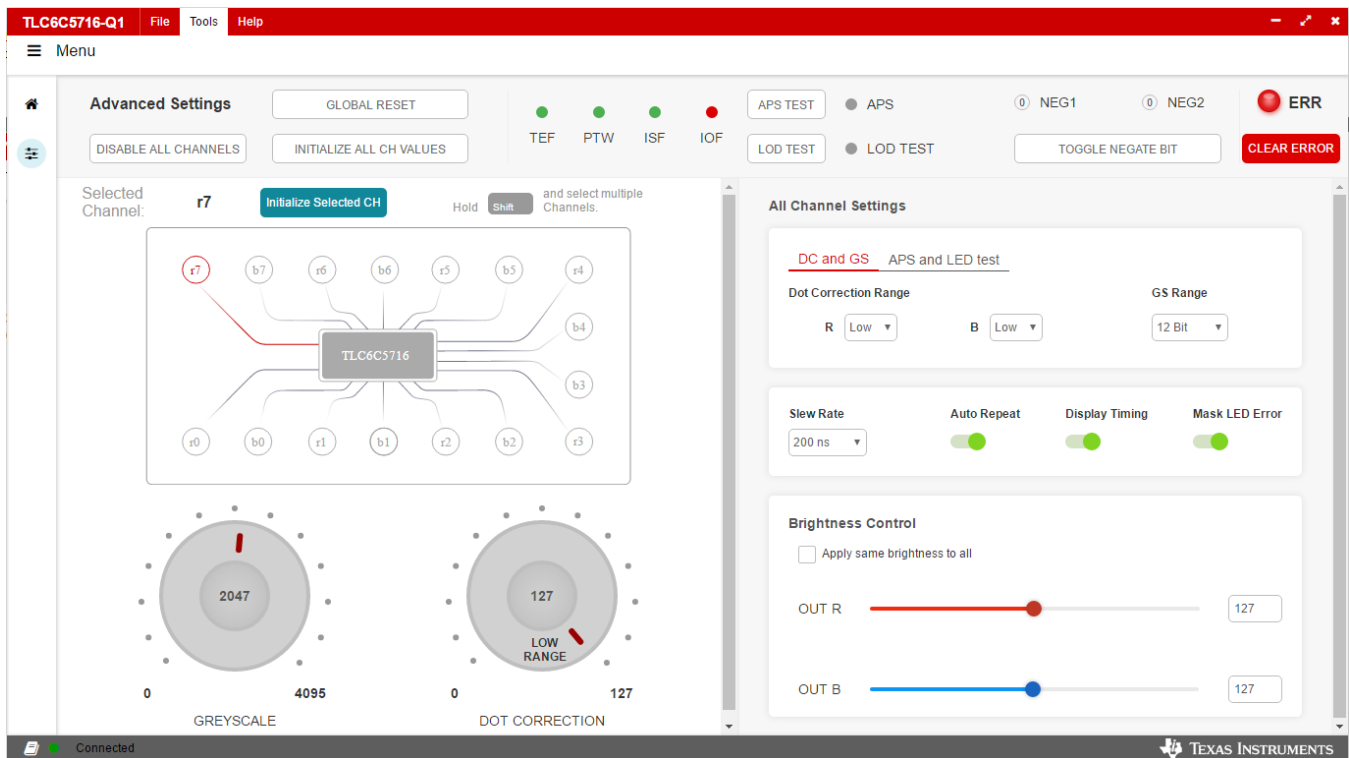

Figure 5. Advanced Settings Page
The *Advanced Settings* page (Figure 5) provides more register configuration features. The GLOBAL RESET button resets the TLC6C5716-Q1 internal registers, meaning all registers values are set to 0, except the *Mask LED Error* bit is set to 1. The INITIALIZE ALL CH VALUES buttons turns on all channels with 50% grayscale (GS), dot correction, and brightness control values. GS and dot correction channels can be adjusted separately.